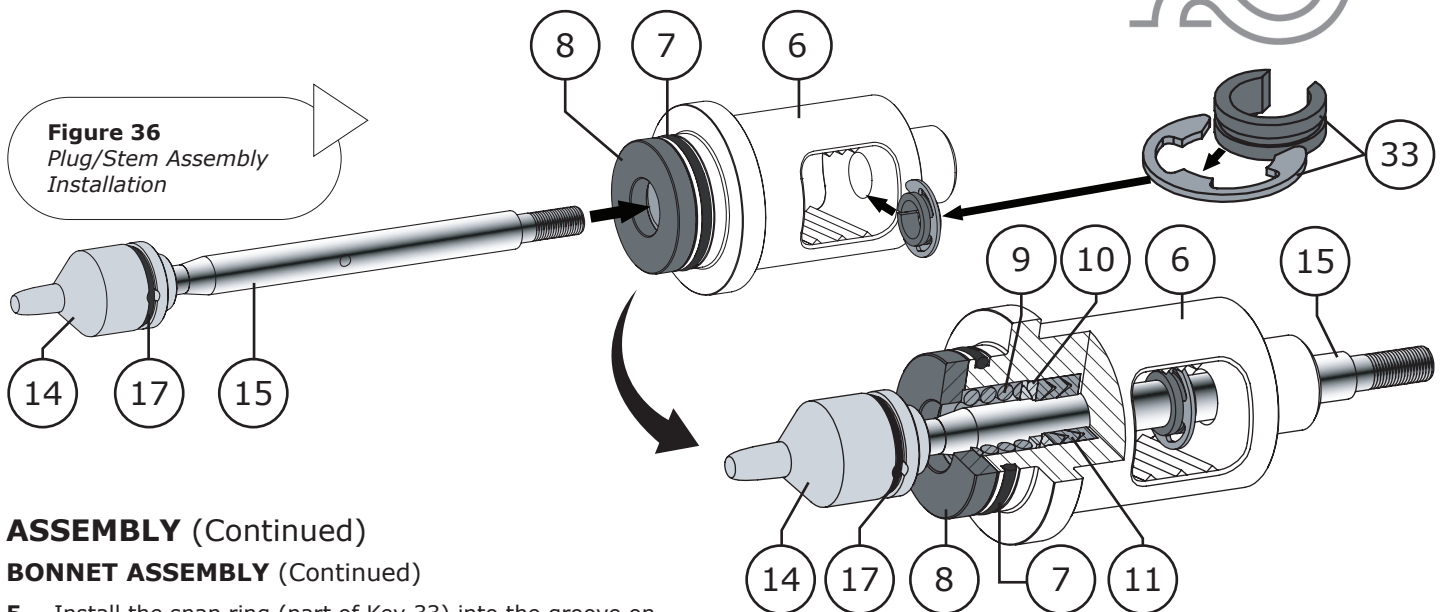

Figure 36
- 5 Install the snap ring (part of Key 33) into the groove on the plastic bushing (part of Key 33), refer to Figure 36. Prepare the travel indicator (Key 33) so that when the stem (Key 15) is inserted through the bonnet (Key 6) the travel indicator gets installed on the stem in the bonnet window as shown above.
- 6 Carefully insert the plug/stem assembly (Keys 14 & 15) through the bonnet assembly as shown in Figure 36. Avoid scratching or damaging the valve stem (Key 15) during assembly.